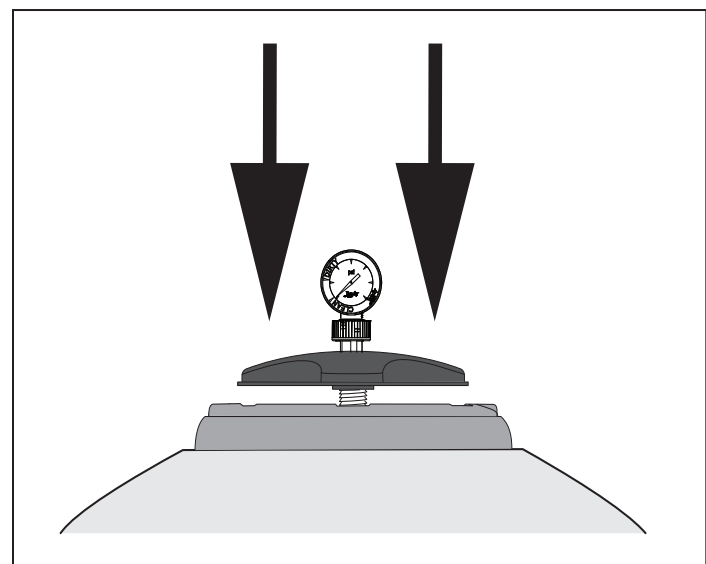

Figure 8. Tap to Release O-Ring
2. Press down on the hand wheel firmly to release the O-Ring. See Figure 8